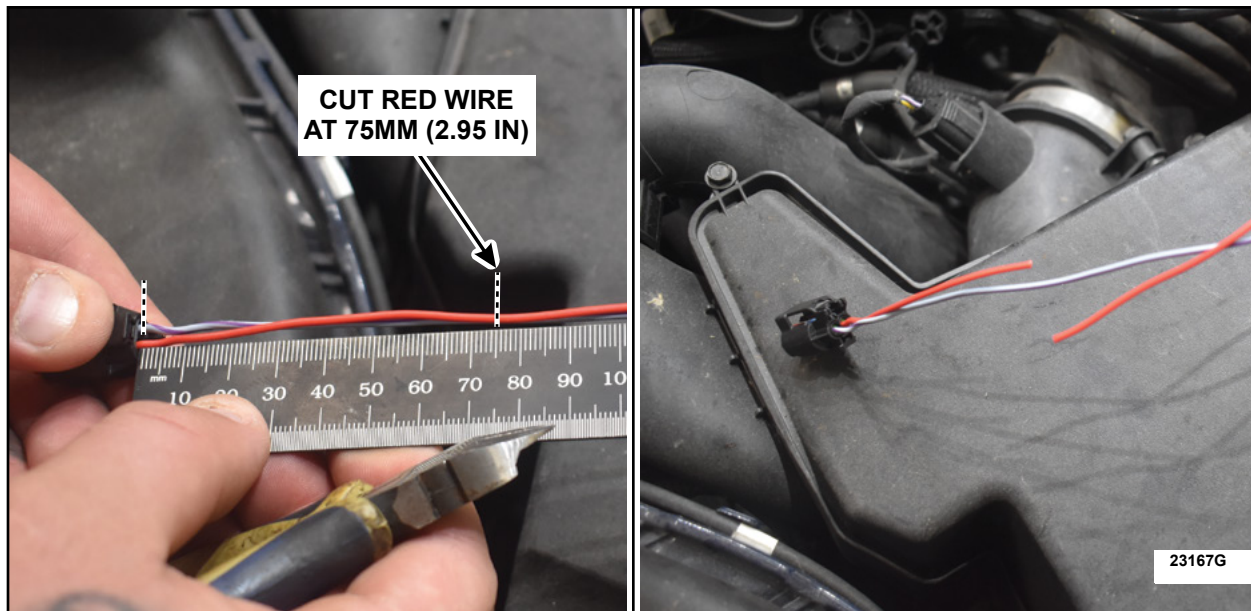

FIGURE 3
5. Separate the two wires to gain access to just the red wire. Using a ruler, measure and cut the red wire 75mm (2.95 in) from the backside of the connector as shown in Figure 3.